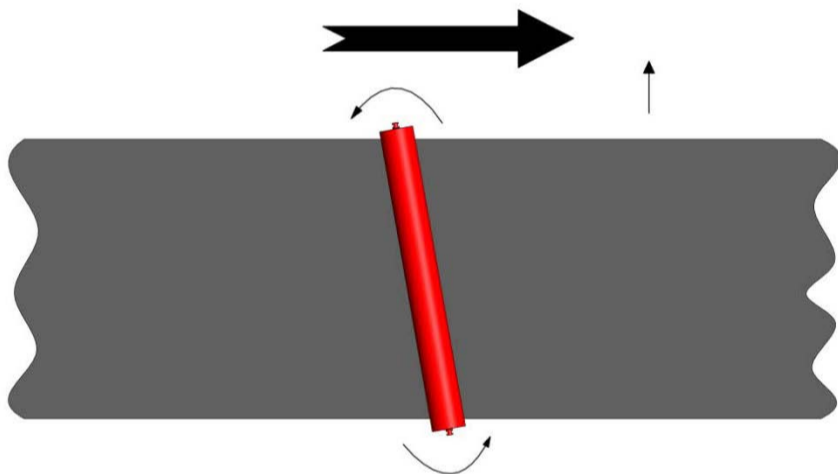

Figure 2.5: (above)
- Figure 2.5 below shows which direction the conveyor belt will track towards once rollers have been shifted from square to stringers. The angle has been exaggerated for demonstration and should not exceed 2 degrees in the field.